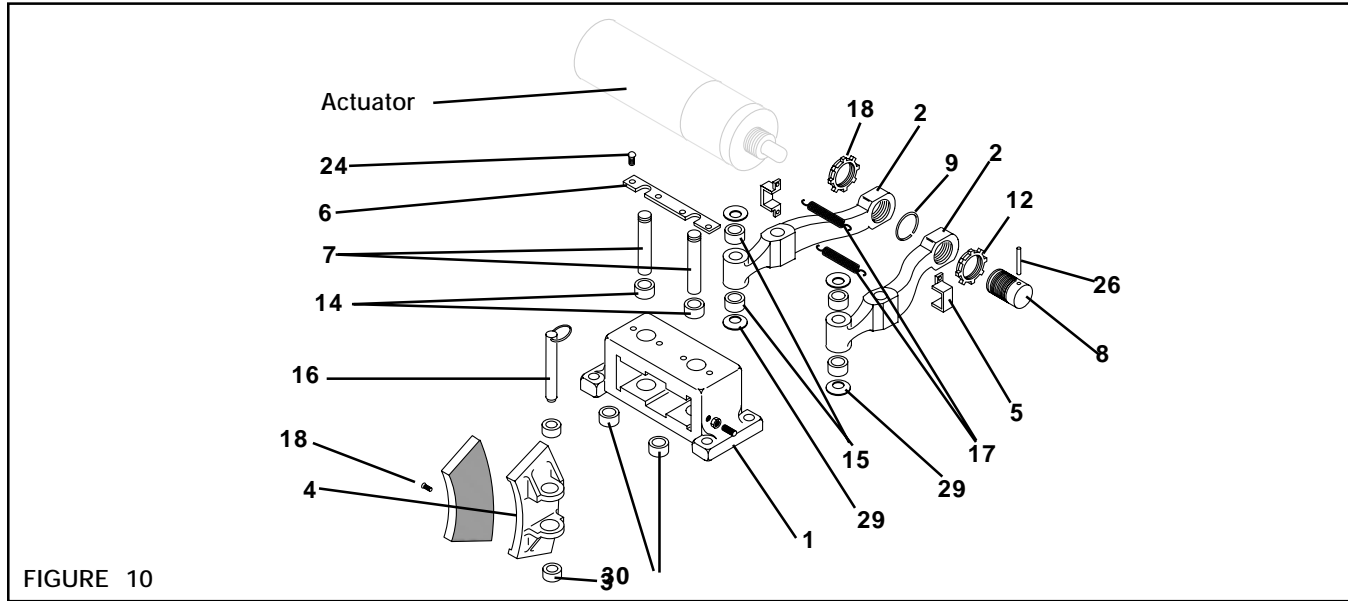

FIGURE 10
1. Loosen the Spanner Nut (Item 12) (See Figure 10).
2. Remove the Actuator from the Brake Arm (Item 2) (See Figure 10).
3. Remove the Extension Springs (Item 17) and Spring Clips (Item 5) from the Brake Arms (Item 2) (See Figure 10).
4. Remove the Detent Pins (Item 16) from the Brake Arms (Item 2), Friction Facings (Item 4), Shoes (Item 3), and Belleville Disc Springs (Item 29) (See Figure 10).
5. Slide the Friction Facings (Item 4) and Shoes (Item 3) off of the Brake Arms (Item 2) (See Figure 10).
6. Remove the four Cap Screws (Item 24) securing the Pivot Pin Retaining Plate (Item 6) (See Figure 10).
7. Remove the Pivot Pin Retaining Plate (Item 6) (See Figure 10).
8. Press the Pivot Pins (Item 7) out of the BD Caliper Brake (See Figure 10).
9. Slide the Brake Arms (Item 2) out of the Main Frame (Item 1) (See Figure 10).
10. Press the old Sleeve Bearings (Items 14 and 30) out of the Main Frame (Item 1) (See Figure 10).
11. Press new Sleeve Bearings (Items 14 and 30) into the Main Frame (Item 1) (See Figure 10).
12. Press the old Sleeve Bearings (Item 15) out of the Shoes (Item 3) (See Figure 10).
13. Press new Sleeve Bearings (Item 15) into the Brake Arm (Item 2) (See Figure 10).
14. Slide the Brake Arms (Item 2) back into the Main Frame (Item 1) (See Figure 10).
NOTE: There is one threaded hole on each side of the front of the Main Frame (Item 1). The BD Arms (Item 2) must be inserted into the Main Frame from the opposite end. (See Figure 10)
15. Install the Pivot Pins (Item 7) (See Figure 10).
16. Install the Pivot Pin Retaining Plate (Item 6) (See Figure 10).
17. Install the four Cap Screws (Item 24) to secure the Pivot Pin Retaining Plate (Item 6) (See Figure 10).
19. Slide the Friction Facings (Item 4) and Shoes (Item 3) over the Belleville Disc Springs (Item 29) and onto the Brake Arms (Item 2); then, install the Detent Pins (Item 16) (See Figure 10).
20. Install the Spring Clips (Item 5) and Extension Springs (Item 17) onto the Brake Arms (Item 2) (See Figure 10).
21. Screw the Actuator back onto the Brake Arm (Item 2) as far as possible (See Figure 10).